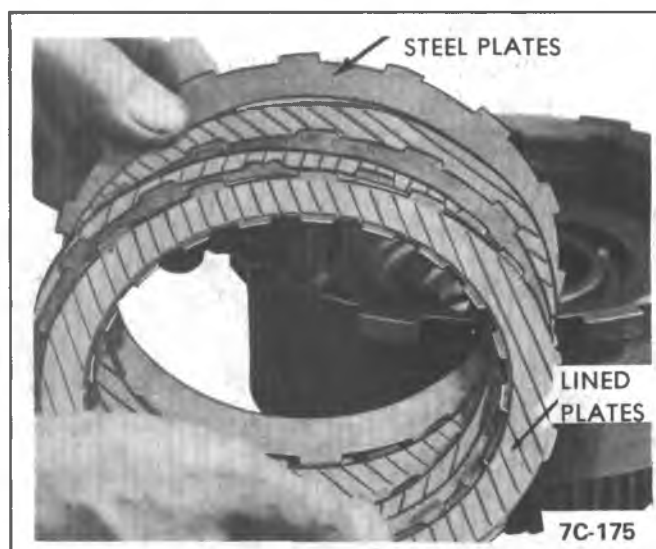

Figure 7A3-87 Install Clutch Plates
6. Install direct clutch pressure plate and retaining ring. See Figure 7A3-80.
7. Install intermediate overrun roller clutch assembly. See Figure 7A3-89. Roller clutch assembly must be assembled with four (4) holes up (toward front of transmission).
8. Install intermediate clutch overrun outer race. See Figure 7A3-89.